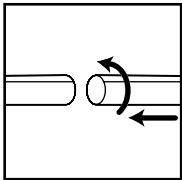

FIGURE 1
6. Attach the extension wands (not standard with all models) to the accessory end of the hose. Twist slightly to tighten the connection. **FIGURE 1.**